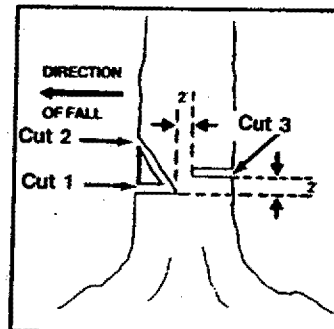

Figure 19
- a. Make the notch cut. Figure 19.